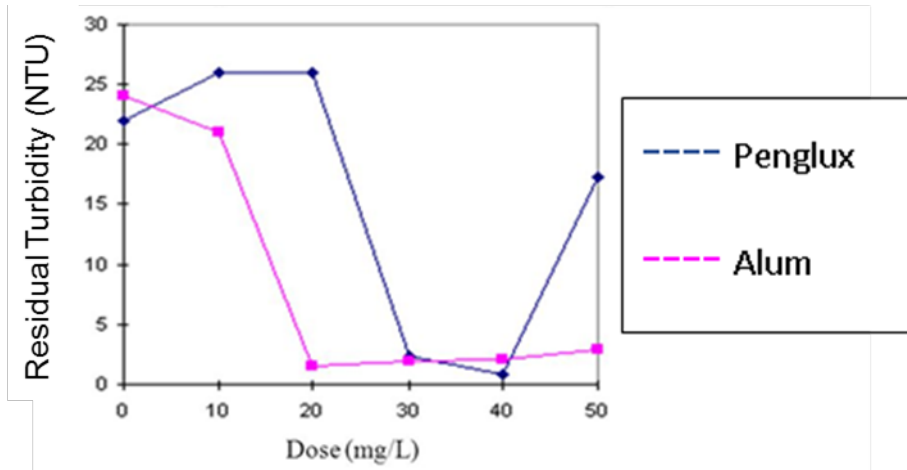

Figure 1: Results of coagulation jar tests using Alum and Penglux.
- Jar tests produce the data in Figure 1.
(iv) Jar tests produce the data in Figure 1.